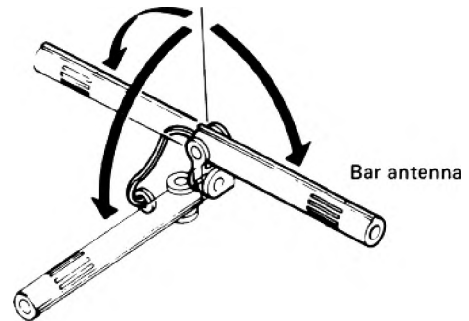

Fig. 7
- Select the desired AM station, and move the bar antenna around in every direction and then set it at the position where the best reception is obtained (Fig. 7).